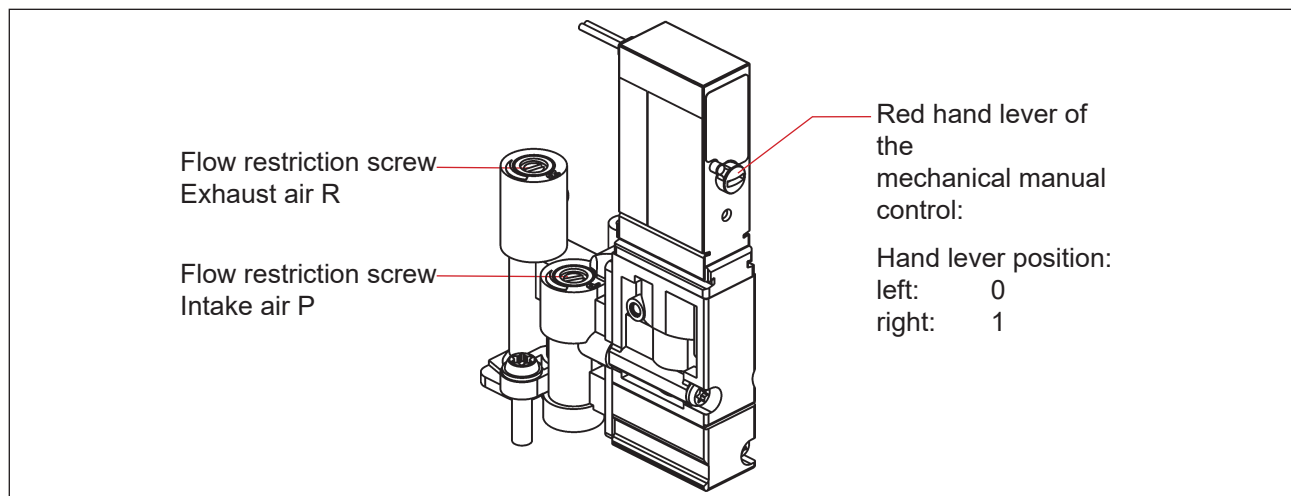

Fig. 6: Flow restriction screws and mechanical manual control of the pilot valves
on each equipped pilot valve, accessible only when the housing is open ("Fig. 6")
- The **capability of restricting the pilot valves** for the individual setting of the expansion and retraction rates of the process valve and the individual setting of the flow-rate of the working connections (see “Fig. 6: Flow restriction screws and mechanical manual control of the pilot valves” on page 21)